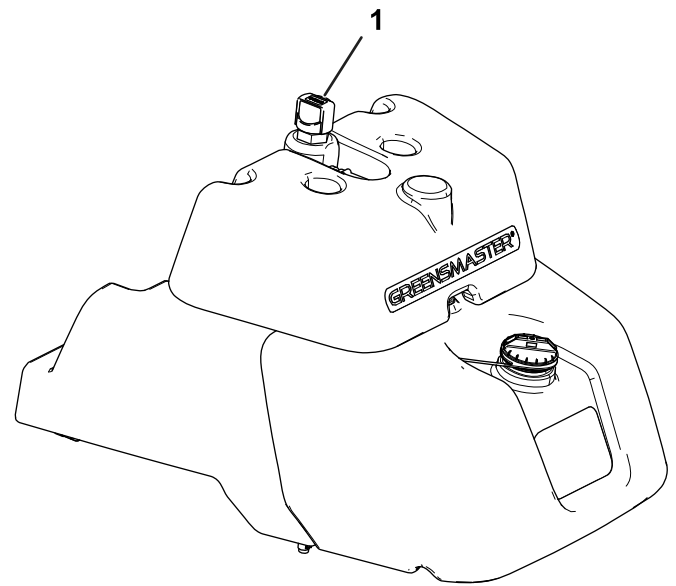

Figure 46
2. Locate the dipstick on the top of the main hydraulic tank (Figure 46) and proceed to step 3.